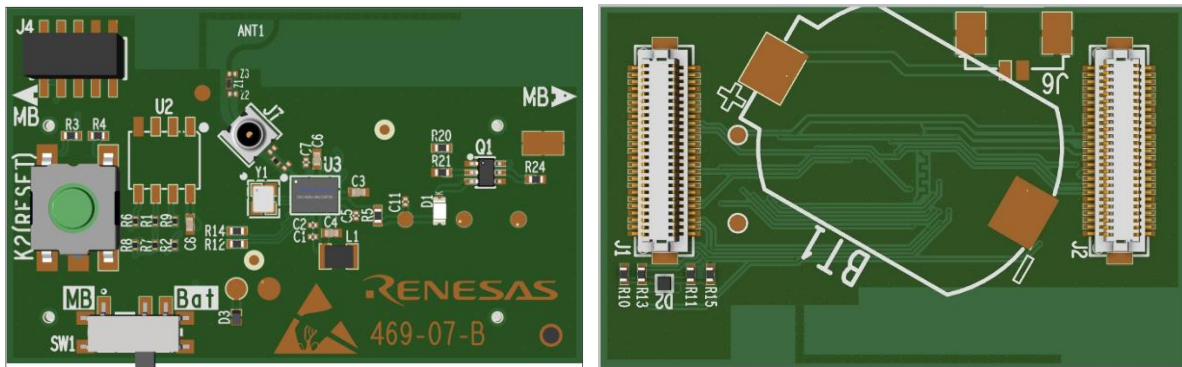

Figure 16. SW1 (left), available battery sockets on the bottom side of the daughterboards (right)
- Supply from LDO on Pro motherboard by setting SW1 to **MB**, see Figure 16,
- Supply directly from Battery by setting SW1 to **Bat** see Figure 16
- Place holder for a Coin cell 2016 lithium battery socket (BT1) on the bottom layer of each daughterboard. (Figure 16)